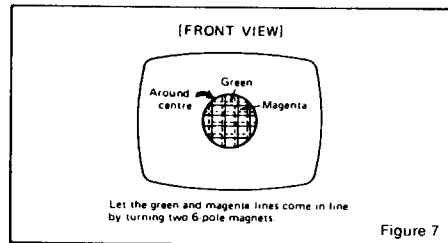

Figure 7
7.6 Turn on green input to obtain magenta (red/blue) and green crosshatch lines. Rotate the 6-pole (rear) pair of magnets as a unit to minimize separation of the magenta and green lines (figure 7). Vary angle between the two tabs and further rotate as a unit to finalize.